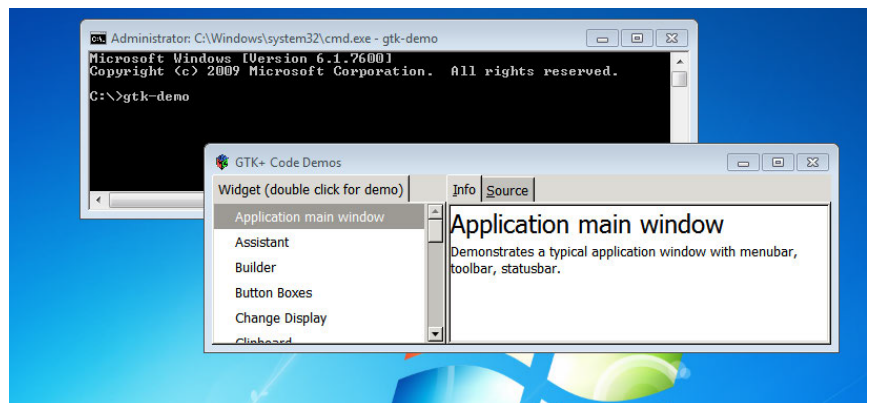

Figure 5-21. Testing the *gtk-demo* program
4. Test the installation. Open a command prompt (Start→All Programs→Accessories→Command Prompt). Type **gtk-demo** and press Enter (Figure 5-21).